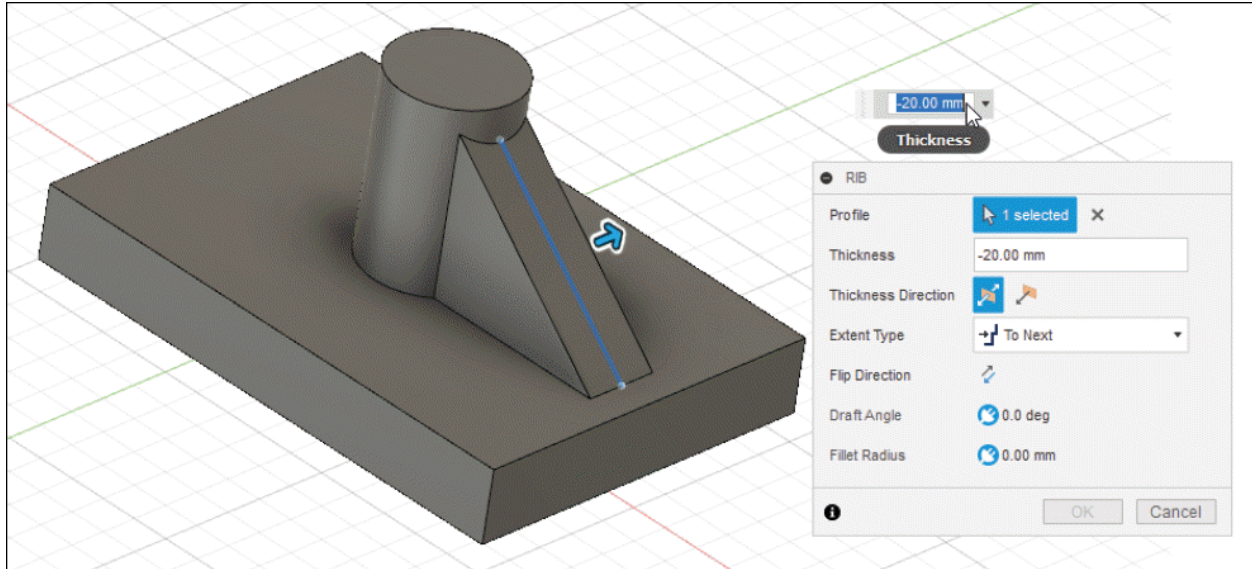

Figure-22. To Next tool in Rib
- Select the **To Next** option from **Extent Type** drop-down from **RIB** dialog box to create the rib up to next surface or model; refer to Figure-22.